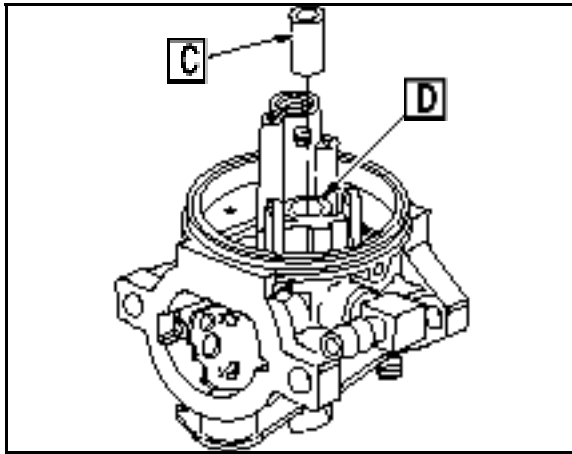

Fig. 128
1. Press the new fuel inlet seat ([C] Fig. 128) in until it is flush with the fuel inlet boss ([D] Fig. 128).